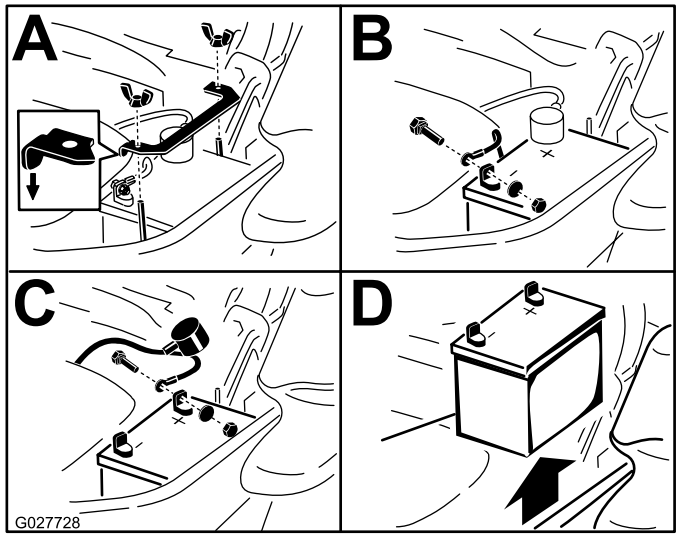

Figure 70
3. Remove the battery as shown in Figure 70.
**Note:** Position the battery in the tray with the terminal posts opposite from the hydraulic tank (Figure 70).